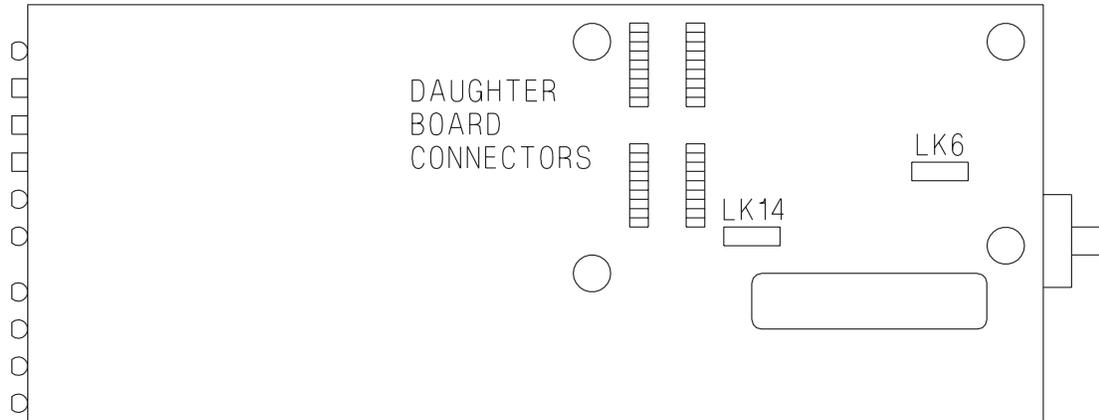

Figure 3-8: PAD CPU Board
2. Locate the battery holder on the CPU (main) circuit board and install the battery in the orientation shown in Figure 3-8. The battery is not enabled unless Jumper LK14 is set (see Table 3-B).